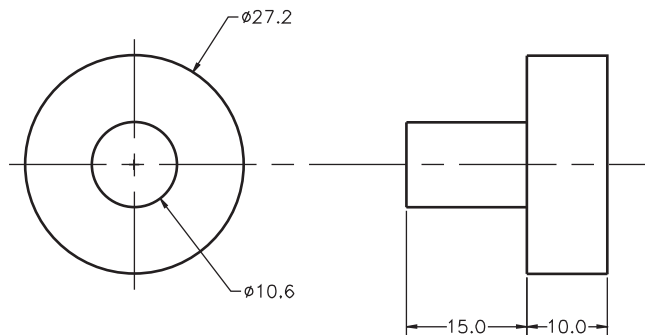

Fig. 30-12
1. Create the two-view drawing of the plug according to the dimensions shown in Fig. 30-12. Use a drawing area of **100,80**, and name the drawing **plug.dwg**. Dimension it as shown in Fig. 30-13 to show the runout of the plug. (*Runout* is the form and location of a feature relative to a datum.) Notice that the limits are different on the two holes.